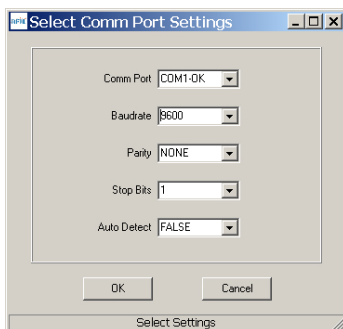

Figure 8.6.2
2. Click on *Connect* to open the *Select Comm Port Settings* dialog box, as shown in Figure 8.6.2. If necessary, set the baud rate to 9600 bps. Set the *CommPort* to match the serial port connected to the Base, either the hardware port or the USB virtual serial port. Then click *OK* to activate the connection.